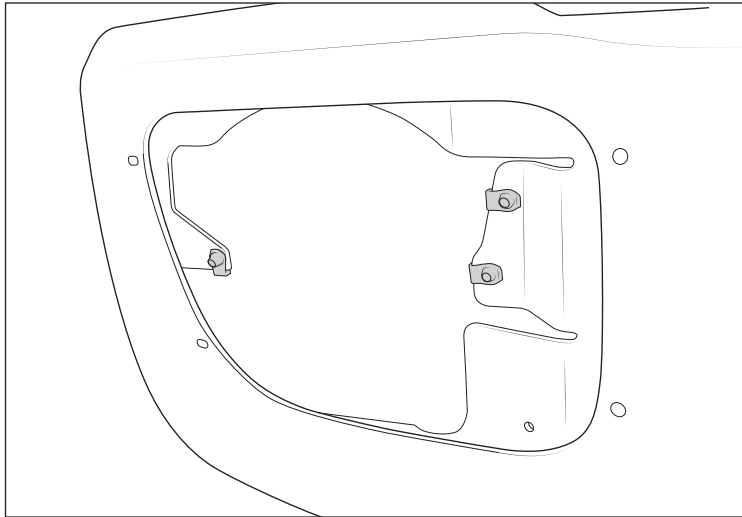

Figure 34
1. Install the supplied M6 U-nuts onto bumper corners (fig. 34).